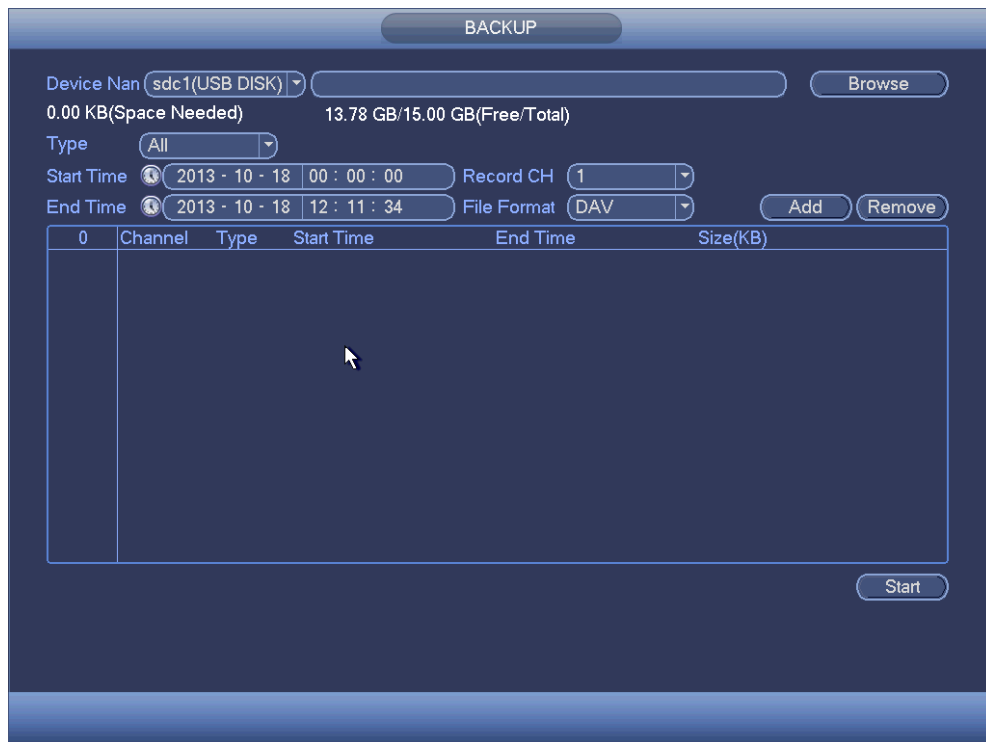

Figure 4-81
- From Main menu->Backup, you can go to the Backup interface. See Figure 4-81